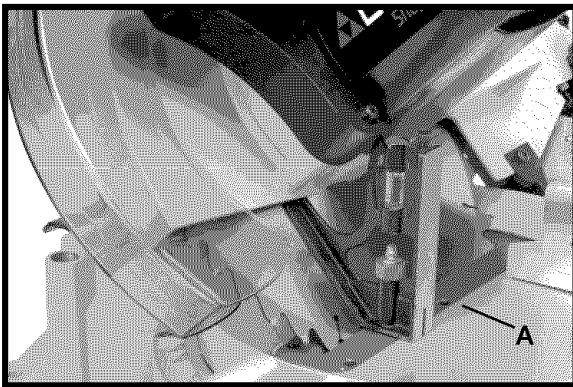

Fig. 25
7. Use a combination square (A) Fig. 25 to see if the blade is at 45 degrees to the table.